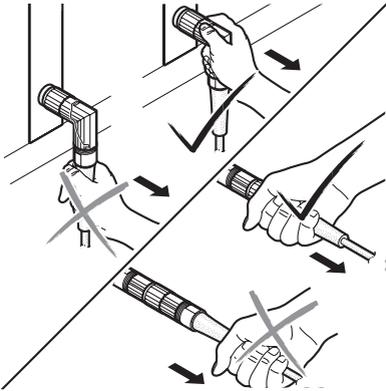

Abb. 20: Disassembly instructions "Pulling out the connecting cable"
- ▶ Pull off the connecting cable according to fig. 20 on page 170.